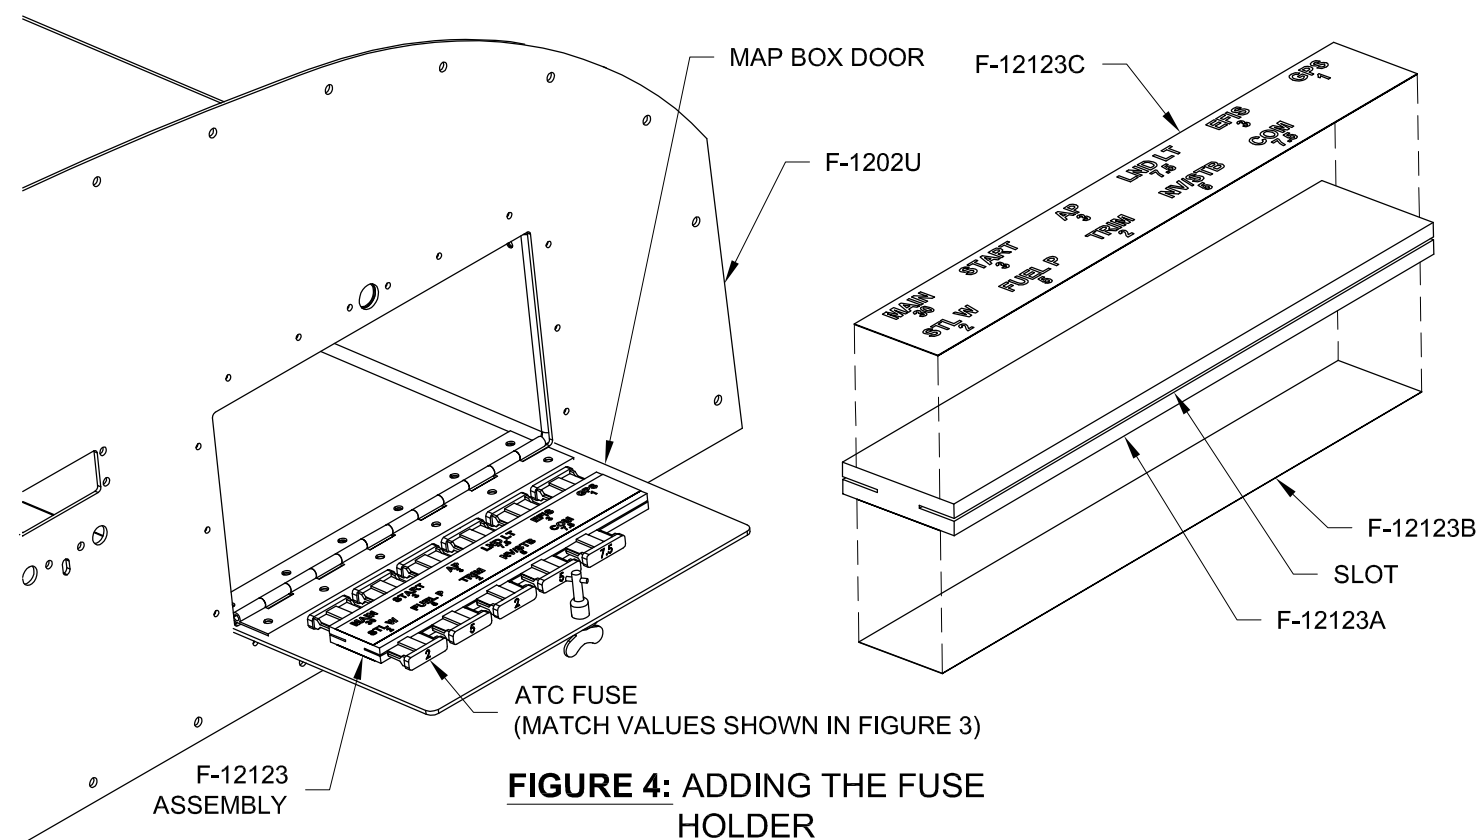

FIGURE 4: ADDING THE FUSE HOLDER
Step 9: Peel the remaining side of the F-12123B Double Sided Velcro Tape off and adhere the assembly onto the inside of the Map Box Door as shown in Figure 4.